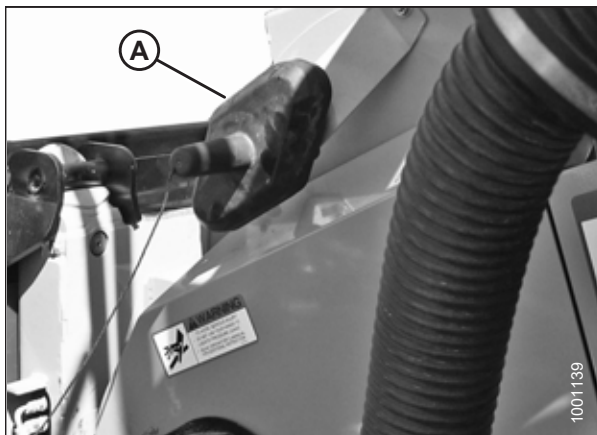

Figure 3.131: Receptacle Cover
- Place float module receptacle cover (A) onto the combine receptacle as shown in Figure 3.131, page 106.